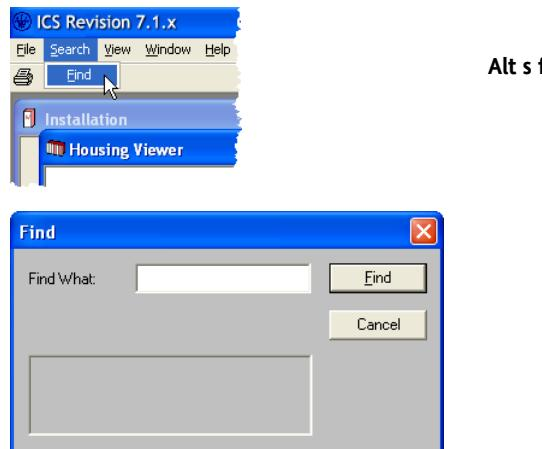

Figure 4.6 Find dialog box
- c) Choose **Search > Find** to open the Find dialog box (figure 4.6).
- e) Click **Find** (figure 4.6).